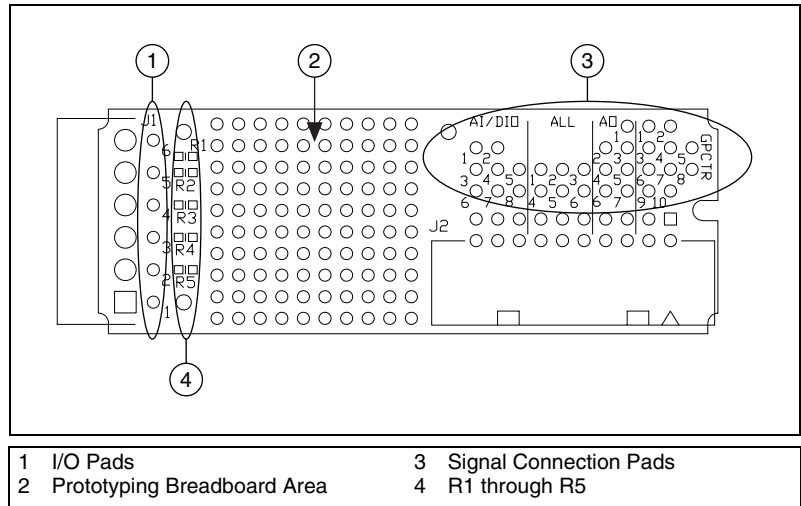

Figure 3. SCC-FT01 Parts Locator Diagram
You *must* remove resistors R1 through R5, shown in Figure 3, before you develop custom circuitry.
The signal connection pads above connector J2, represented by item 3 in Figure 3, connect to different signals on the E Series DAQ device, depending on where you install the SCC-FT01 on the SC-2345. Table 2 shows the signals available for circuit design when you plug the SCC-FT01 into each type of SCC socket on the SC-2345. The pad numbers correspond to the number next to each pad on the SCC-FT01.